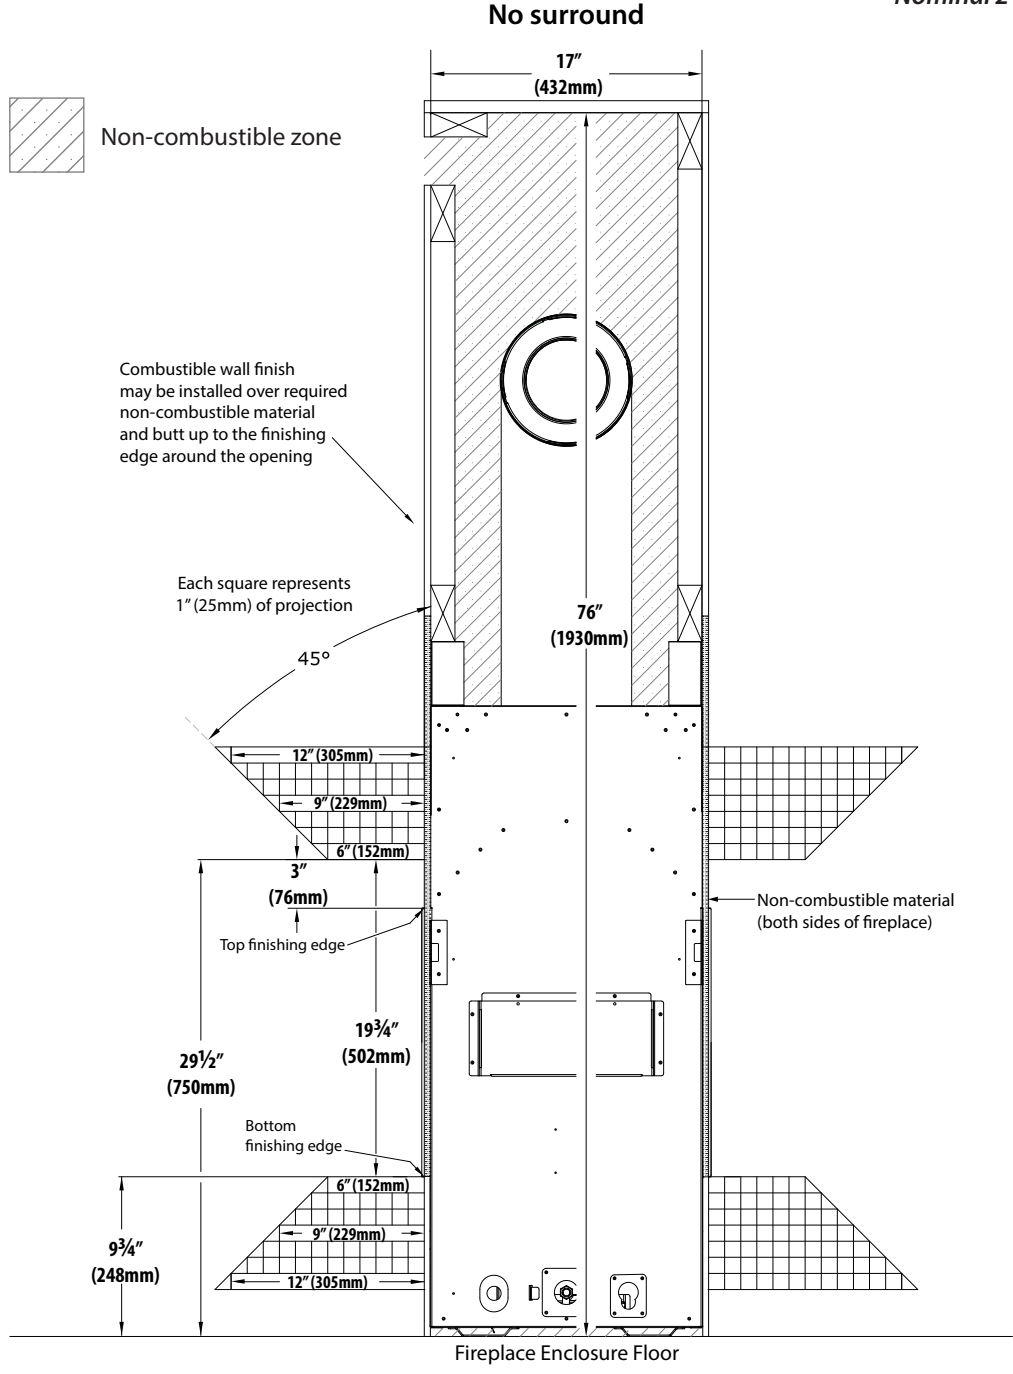

Figure 4.11, Vented Cavity & KZK Facing and Finishing Clearances - No Surround (single opening vented cavity installation shown)
- **Combustible Hearth and Mantel Projections** - See Figure 4.11 on page 44 for facing and finishing clearances. *If installing an optional surround*, Refer to Section 4.4 Finishing Guidelines for Optional Surrounds on page 42.